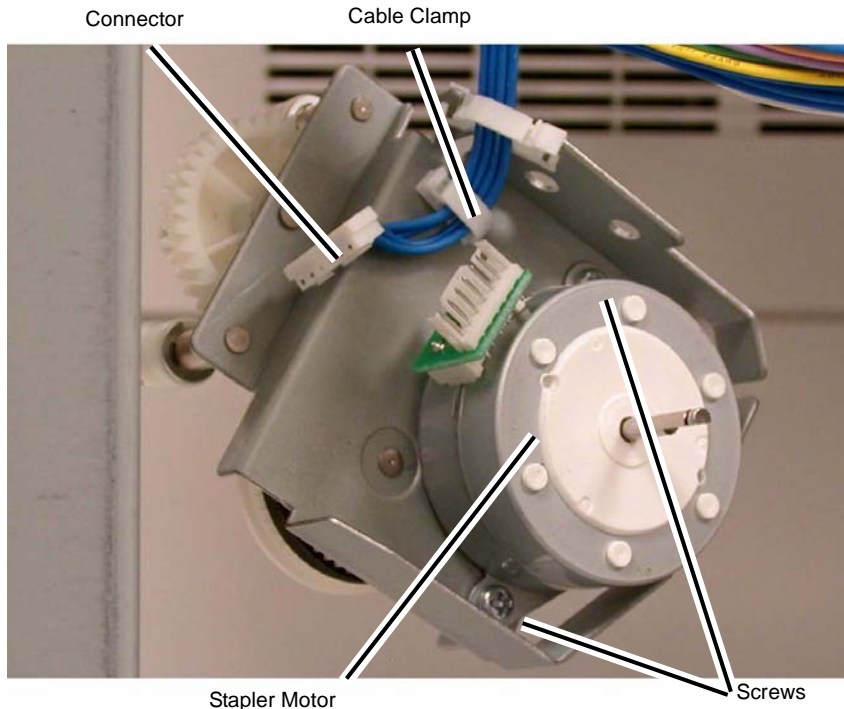

Figure 3 Removing the Stapler Motor
5. Remove the Stapler Motor (Figure 3).